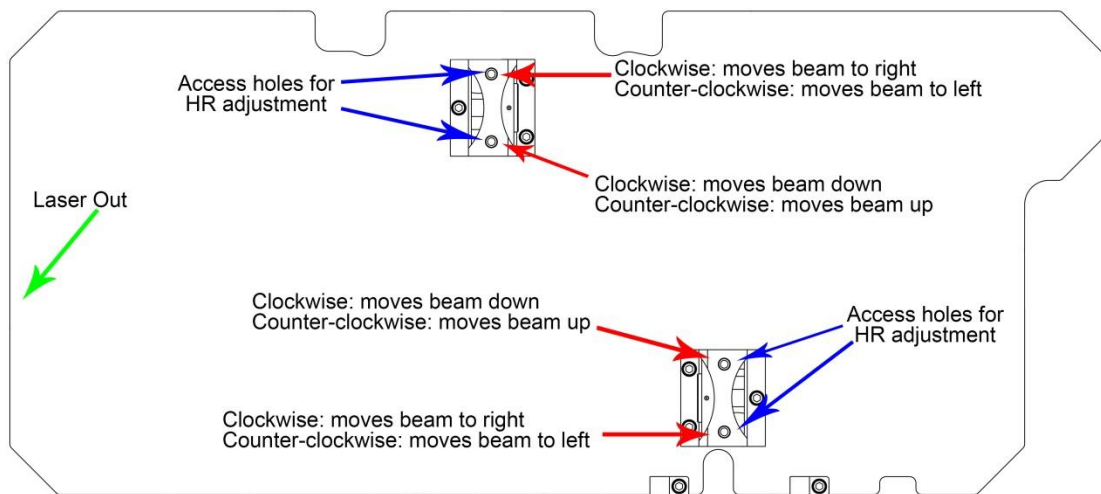

Figure 3-4: Accessible Holes for HR and HM Cavity Mirror Adjustment
4. The screws for the adjustments of the vertical tilt angle and the horizontal tilt angle are illustrated in **Figure 3-4**.
Figure 3-4 illustrates an example of the dependency of power and pulse-to-pulse instability of the laser to the SHG crystal temperature. As shown in the example, the midpoint of the temperature band is around 28.5 °C; the midpoint of the temperature band is the normal operating temperature. The laser may have peak power at 29.3 °C in this example, but a small temperature change on the SHG crystal could result in a power fluctuation.